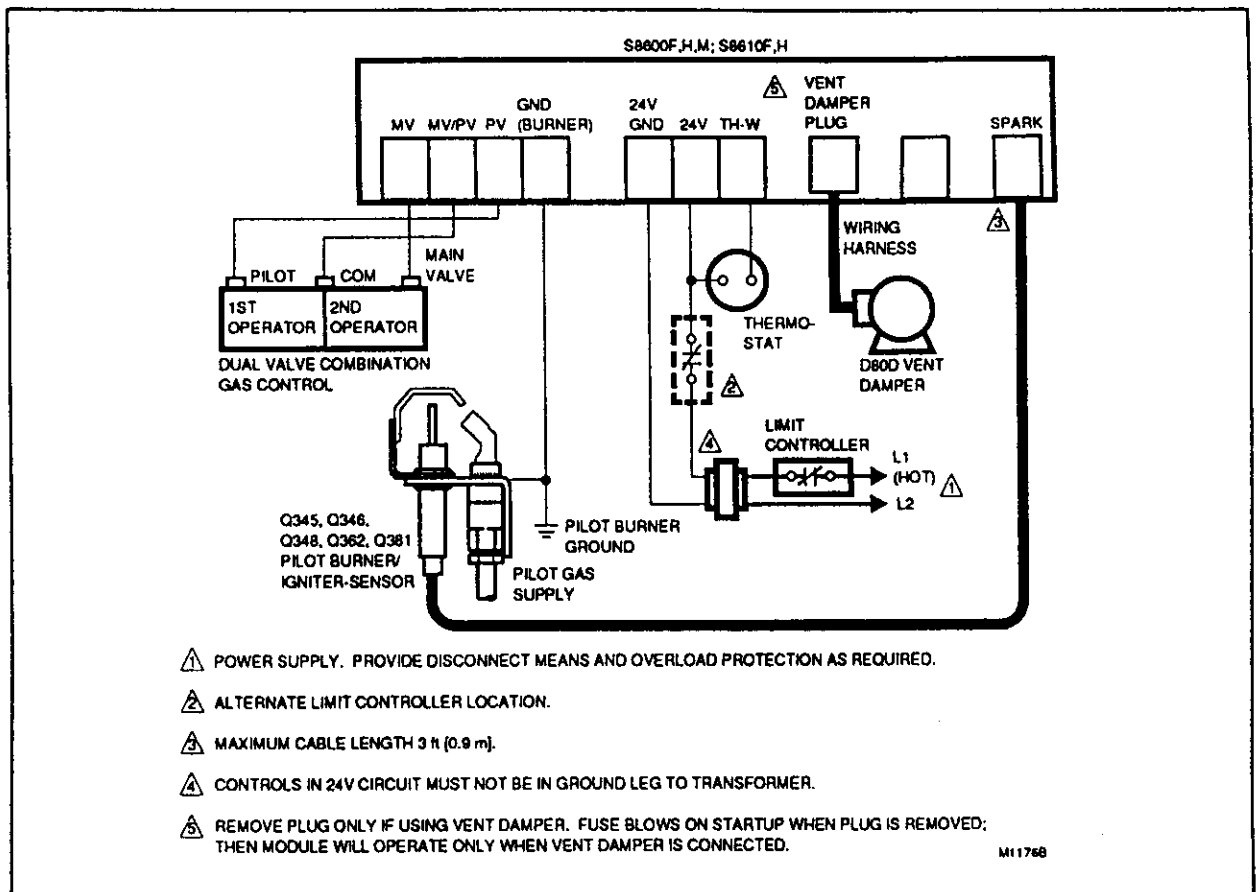

Fig. 2—S8600F,H,M; S8610F,H with a vent damper plug in a heating system with an atmospheric burner and a D80D vent damper.
- Fig. 2 shows S8600F,H,M; S8610F,H with vent damper plug in a heating only atmospheric burner system with D80D vent damper. *Never* use a vent damper in an LP gas system or in a fan-assisted combustion system.